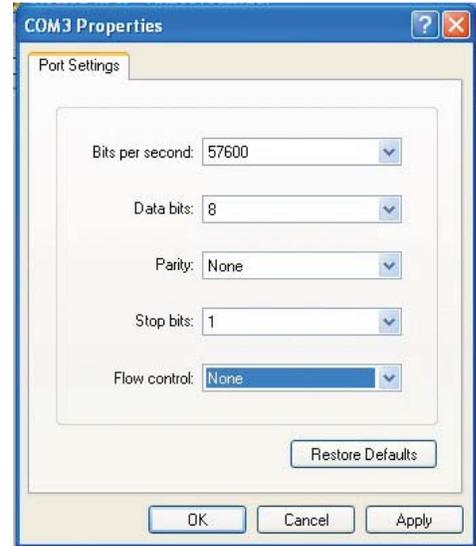

Figure 5: HyperTerminal Port settings.
2. Open HyperTerminal and create a new connection. Enter the port settings as shown in Figure 5.